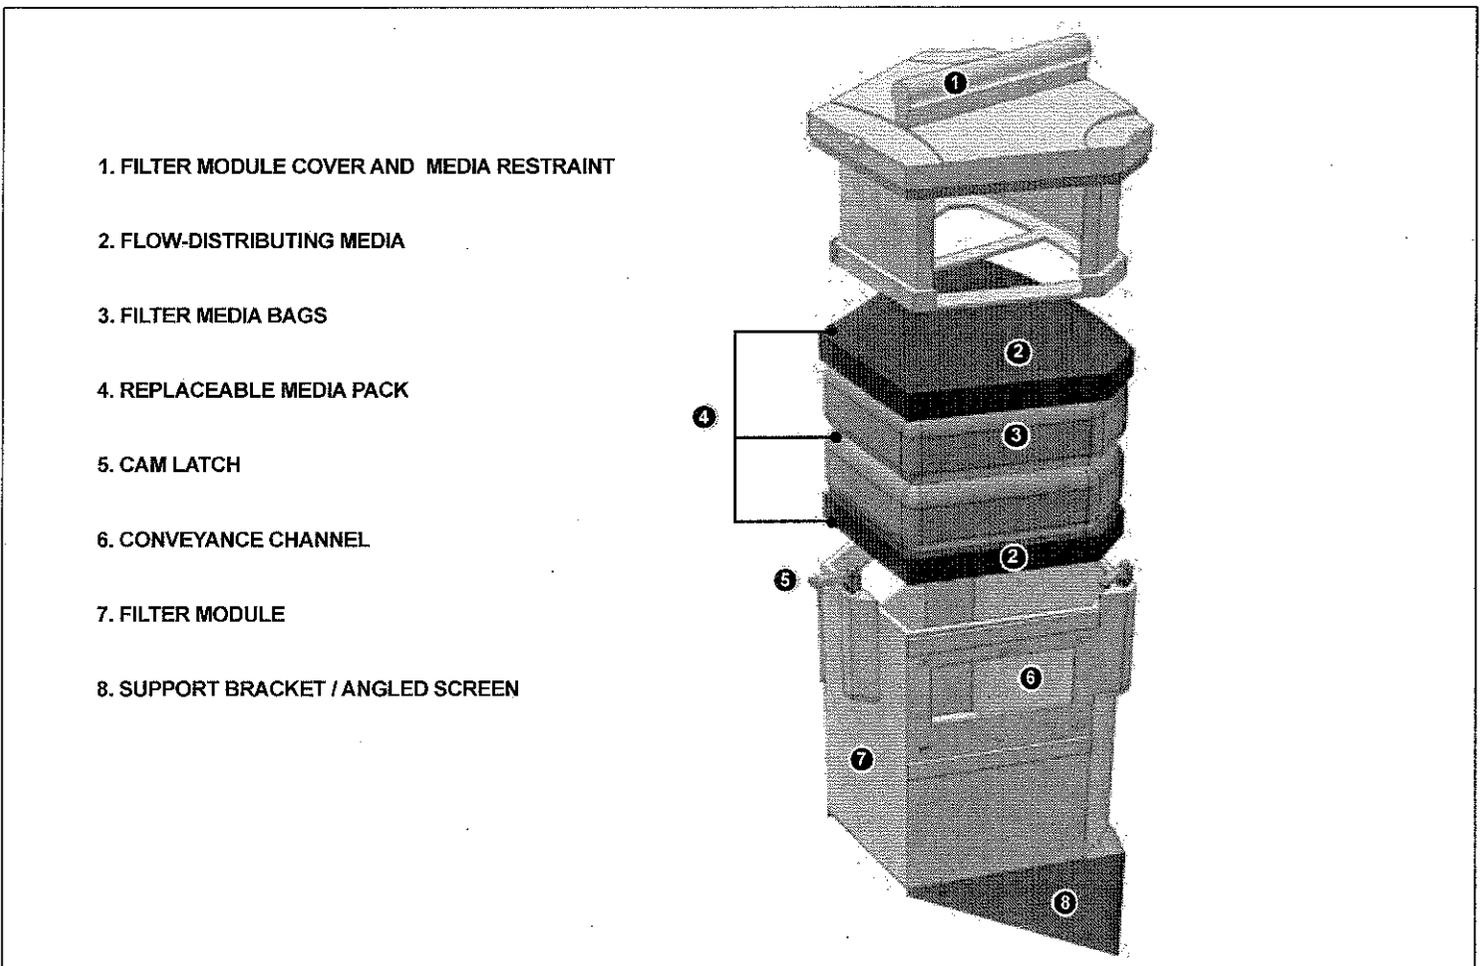

Figure 6: The Filter Module houses the Media Restraint and the Media Pack
3. Open the Filter Module by turning the three cam latches on the front and sides of the module. Remove the lid ① to gain access to the Media Pack (Figure 6).
- A top layer of green ② Flow-Distributing Media.
- Two (2) Media Bags ③ equipped with nylon handles.
- A bottom layer of green ② Flow-Distributing Media.